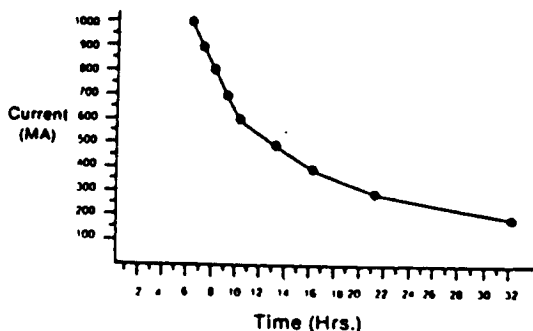

Figure 17
To determine the current load of the 2420 system, add all the current drains of all the remote modules as shown in Table 1. The approximate standby time can then be calculated from Figure 17 which shows the expected hours of standby for various current loads using (2) 4.5 amp. hour 12 volt batteries (Model 6812).